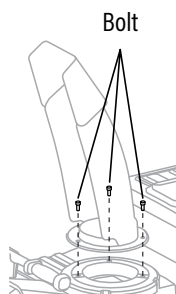

Fig. 3B
2. Fix the snow discharge guide onto the base with 3 bolts. (Fig. 3B)